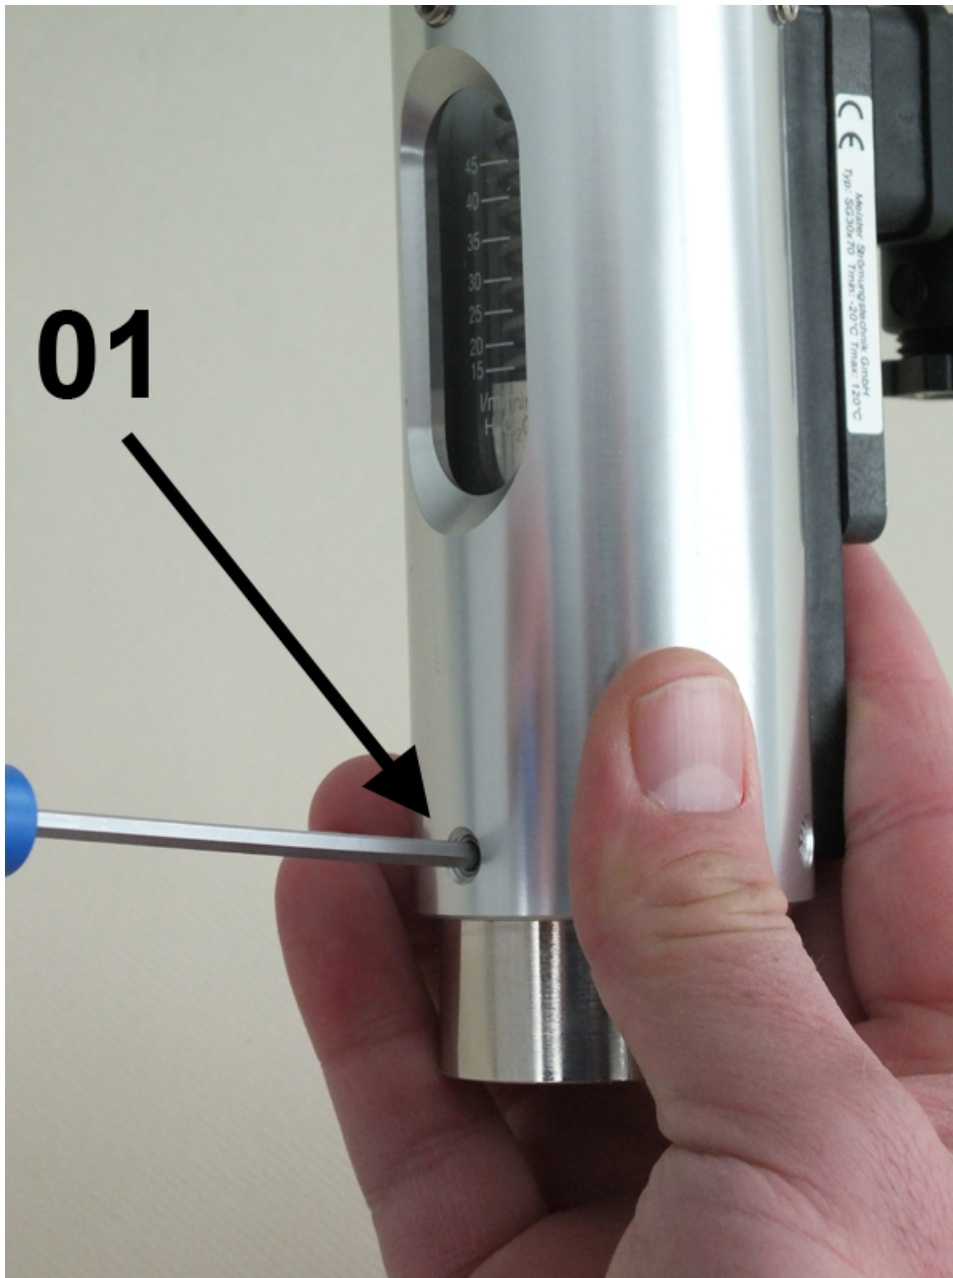

Fig. 53: Secure the process connection (inlet)
9.  Secure the inlet process connection to the device housing with 3 hex socket screws (*Fig. 53/1*), observing the proper torque.